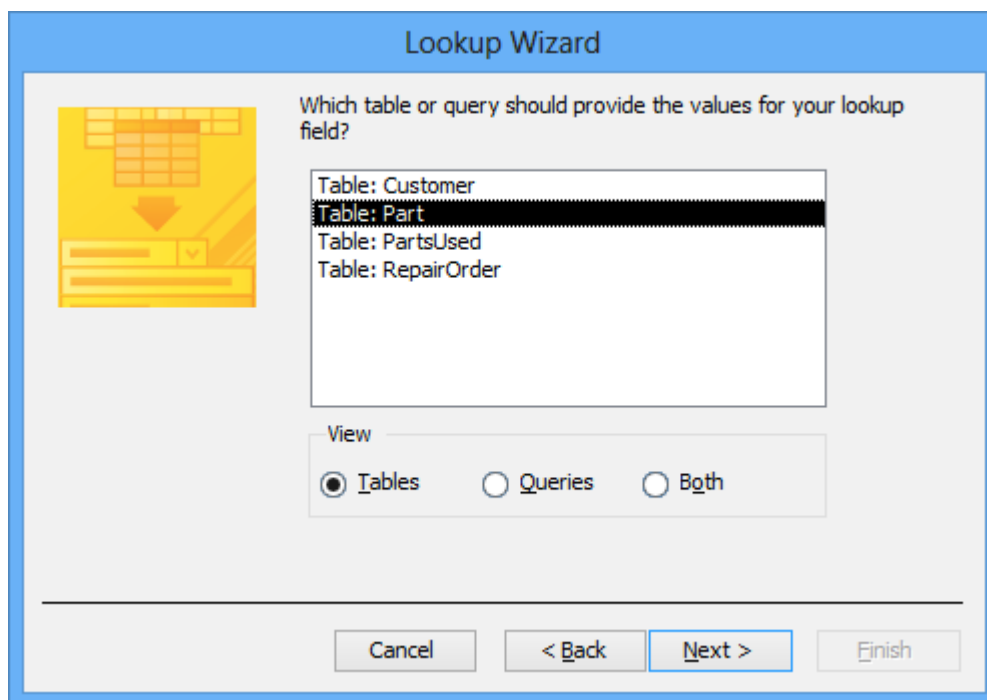

Figure 24: Choose Table Window of the Lookup Wizard
2. Choose the Table: Figure 24 appears on the screen allowing you to select a table from which the lookup entries come. Select *Part* and click **Next**.